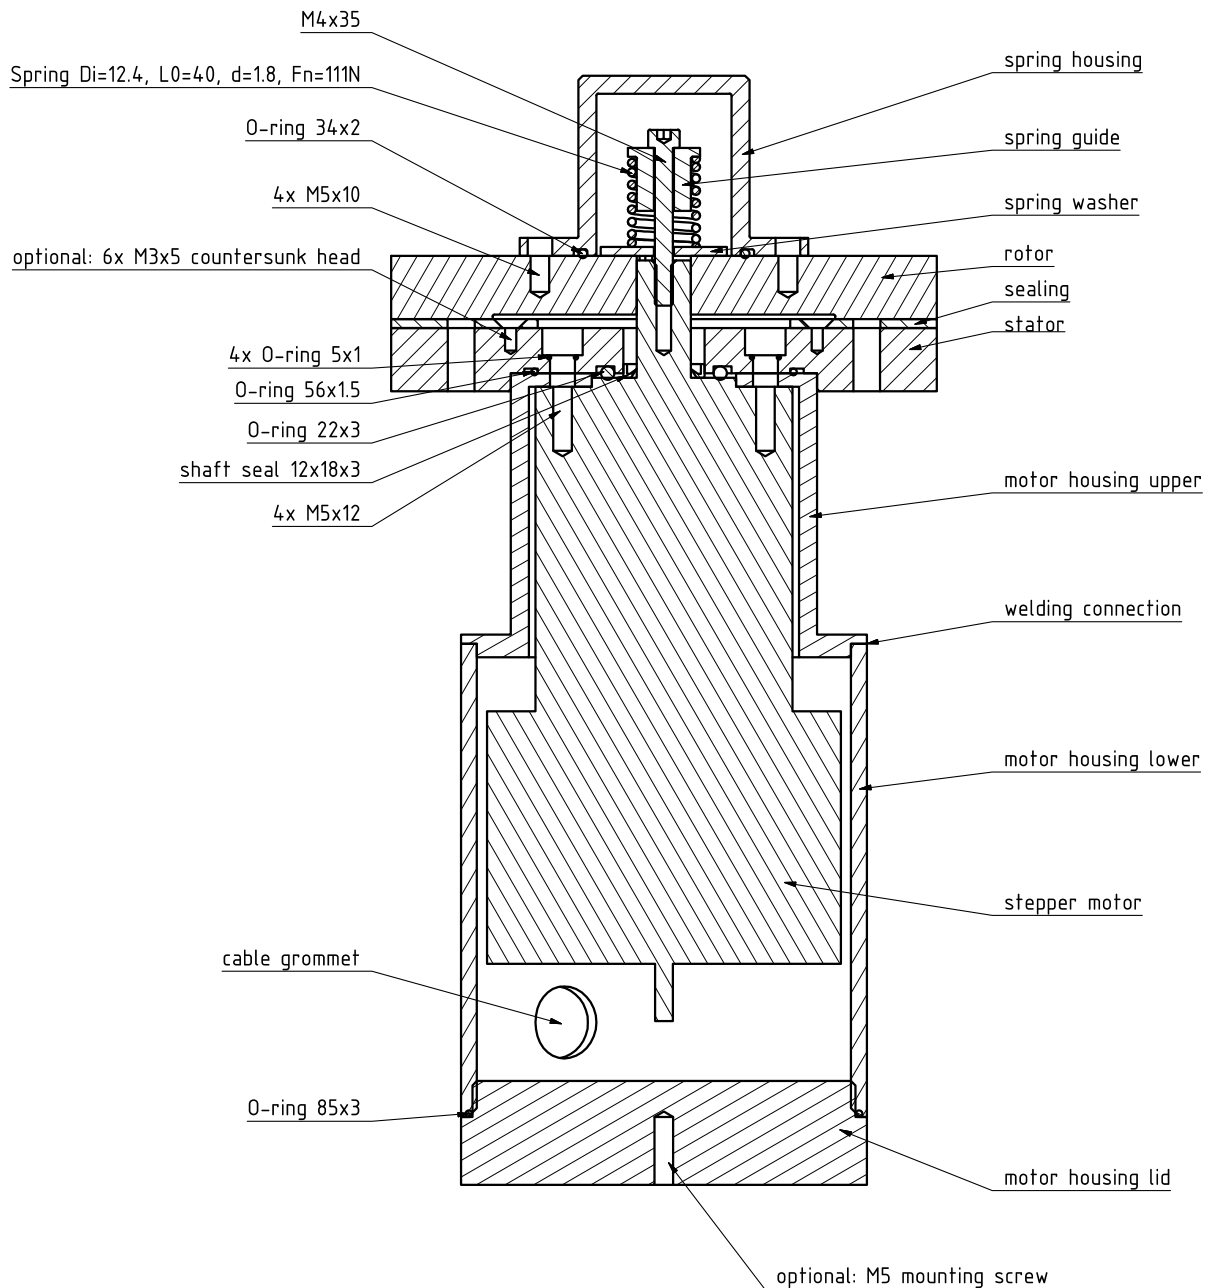
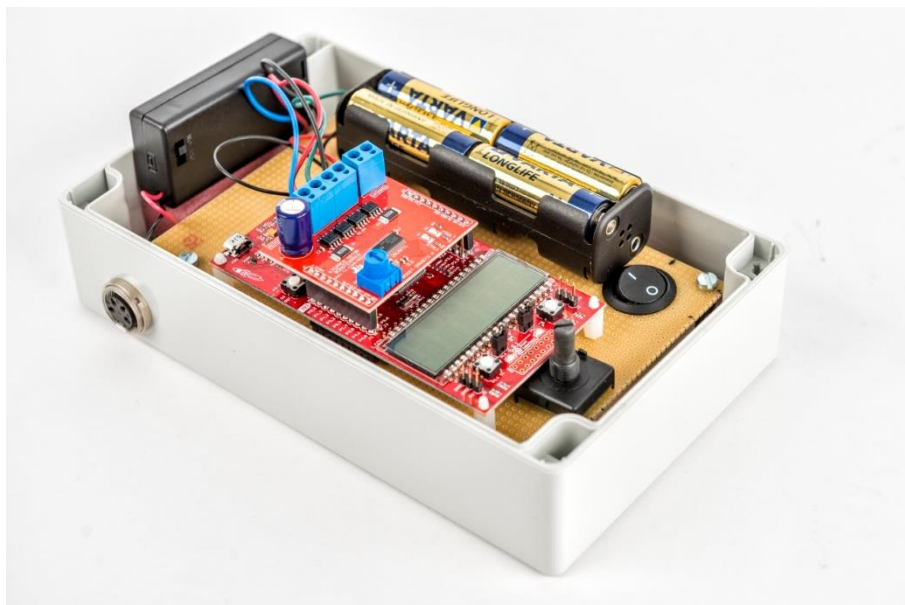

Figure 1 Schematic cross-section giving an overview of the main parts of the distribution unit
Figure 7 Assembled control unit (Photo by André Künzelmann, UFZ)
A cross-section of the distribution unit to be assembled is given in Figure 1. The technical drawing provides an overview of the used parts, for which also individual drawings are available.
7. Assemble the parts according to the technical drawing of the entire distribution unit (Figure 1). First mount the stator, the motor housing, and the stepper motor together (four M5x12 screws). Do not forget the O-rings.
The assembled control unit should look like shown in Figure 7. When closing the enclosure, small pieces of foam can be used to keep the battery holders in place (see also Figure 1 in the main text). Moreover, it is often advisable to place a small desiccant pack into the control unit.